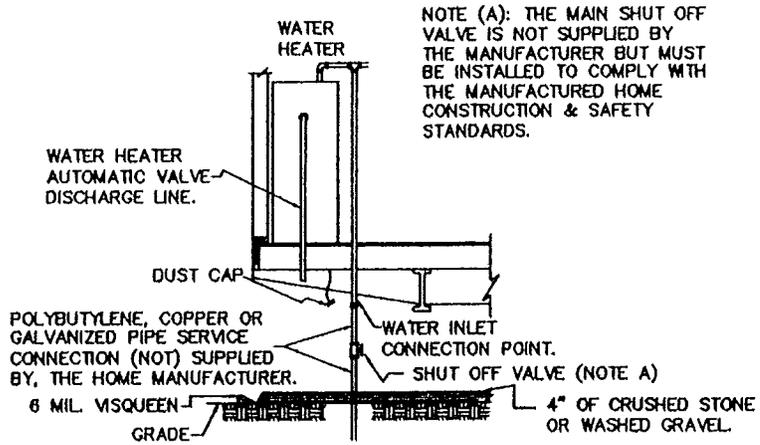

FIGURE 3-1
**3-2.2** The water distribution system was designed for a maximum water inlet pressure of 80 pounds per square inch. Should you locate your home in an area where the water pressure exceeds 80 pounds per square inch, a pressure-reducing valve must be installed. In addition to the pressure-reducing valve, if required, a full flow shut-off valve must be installed on the main feeder line adjacent to the home (See Figure 3-1). This valve must be either a full port gate or full port ball valve with threaded or solder joints.